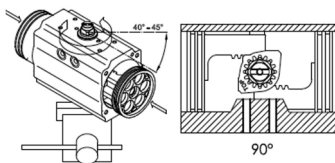

Fig. 14: Turn the housing clockwise
- ▶ For standard direction of rotation installation, variant ST (clockwise closing), turn the housing (item 50) 40–45° clockwise (see Figure 14).